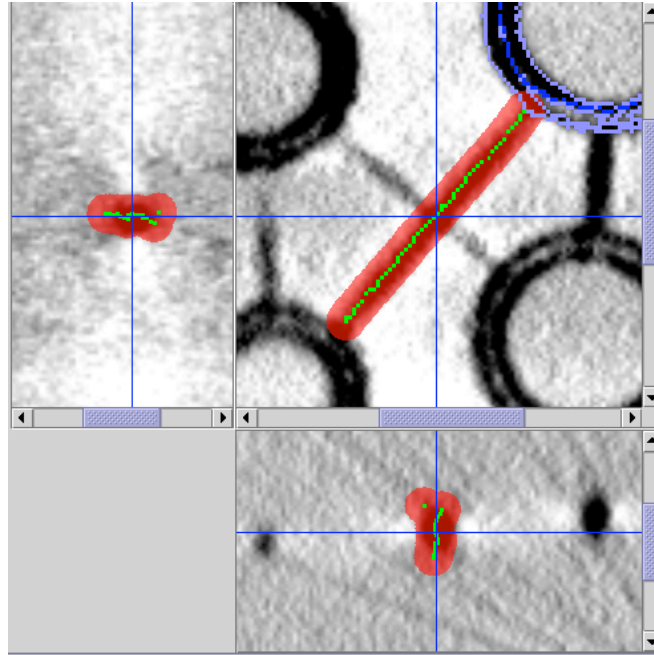

Figure 58: Propagated isolated filament.
- Press the **Propagate** button (Figure 58).